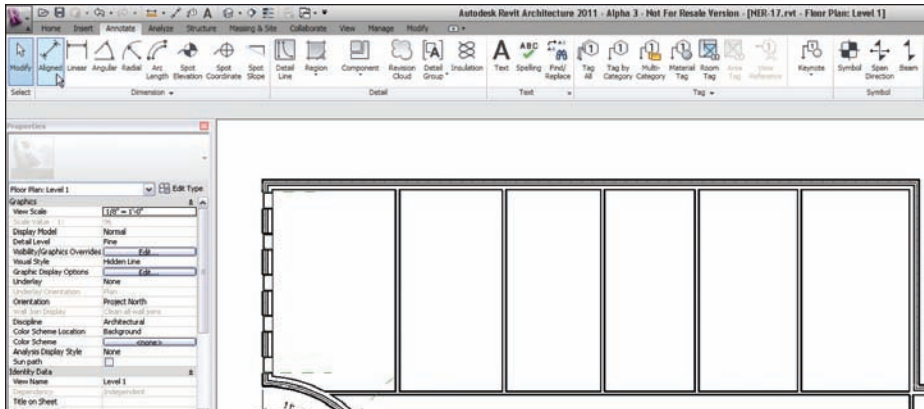

FIGURE 5.25 Adding the walls “willy-nilly”
4. Draw five walls, as shown in Figure 5.25. They do not have to be an equal distance from one another.